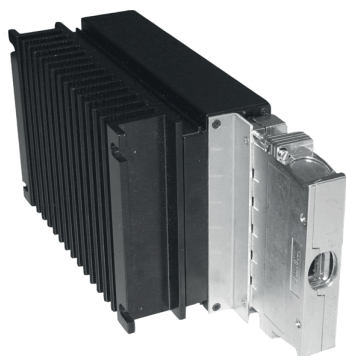

Fig. 35
- Cable hood for H15 connectors (fig 35):